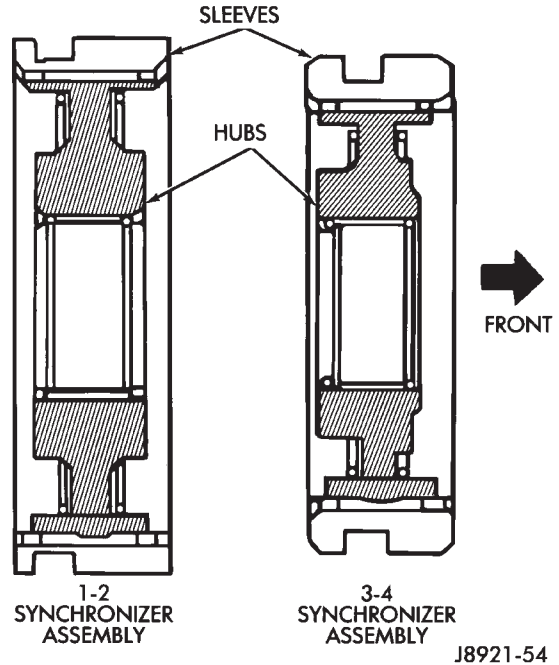

Fig. 108 Synchronizer Identification
(1) Lubricate transmission components with specified gear lubricant.
(2) If necessary, assemble 1-2 and 3-4 synchronizer hubs, sleeves, springs and key inserts (Fig. 108).
(3) Install third gear needle bearing onto the output shaft.
- (4) Install third gear over bearing and onto output shaft flange.
- (5) Install third gear synchronizer ring to third gear.
- (6) Position the 3-4 synchronizer onto the output shaft.
- (7) Using Adapter 6747-1A and a shop press, press the 3-4 synchronizer onto the output shaft.